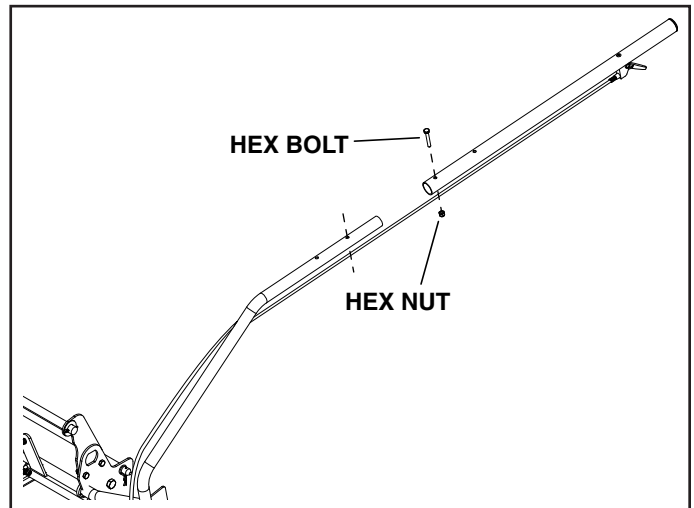

Figure 9.
5. See figure 9. Slide the dump handle extension onto the tilt handle extension.
6. See figure 9. Fasten the front hole of the dump handle extension to the rear hole of the tilt handle extension with a bolt and nut.